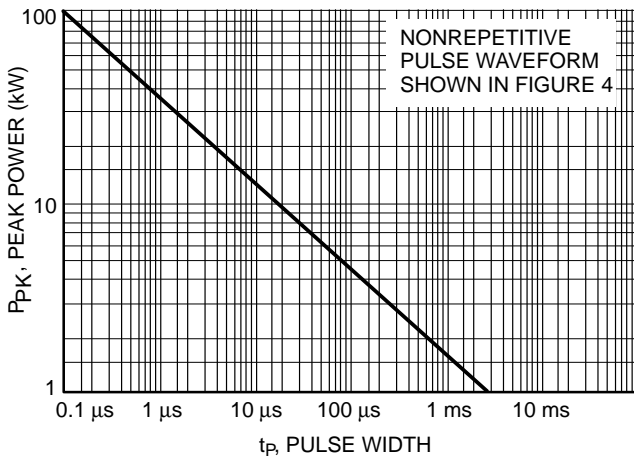
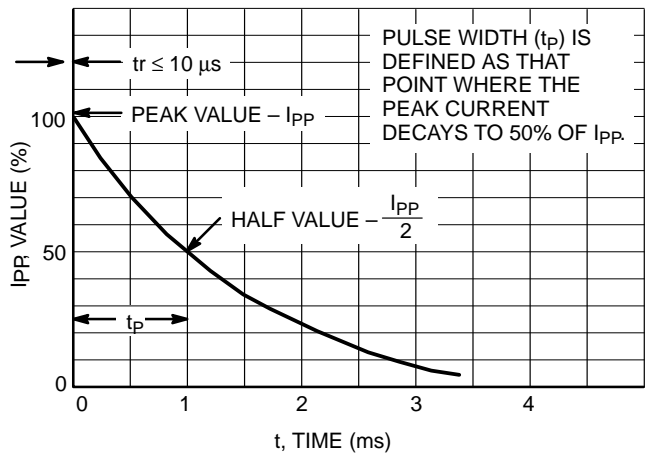
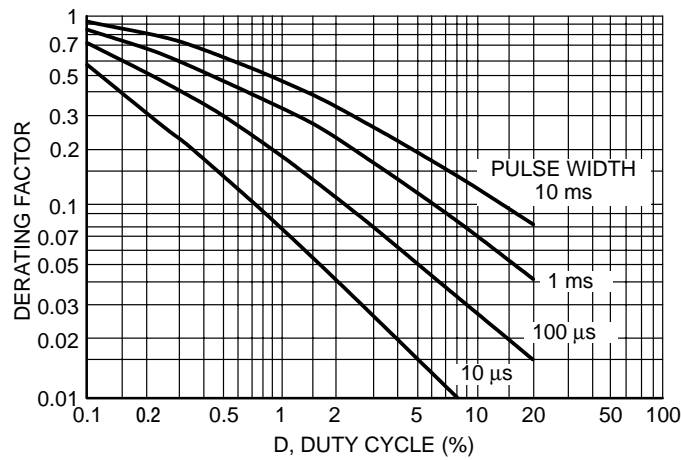

Figure 1. Pulse Rating Curve
Figure 4. Pulse Waveform
Figure 6. Typical Derating Factor for Duty Cycle
4. Surge current waveform per Figure 4 and derate per Figures 1 and 2.
The data of Figure 1 applies for non-repetitive conditions and at a lead temperature of 25°C. If the duty cycle increases, the peak power must be reduced as indicated by the curves of Figure 6. Average power must be derated as the lead or ambient temperature rises above 25°C. The average power derating curve normally given on data sheets may be normalized and used for this purpose.
At first glance the derating curves of Figure 6 appear to be in error as the 10 ms pulse has a higher derating factor than the 10 μs pulse. However, when the derating factor for a given pulse of Figure 6 is multiplied by the peak power value of Figure 1 for the same pulse, the results follow the expected trend.